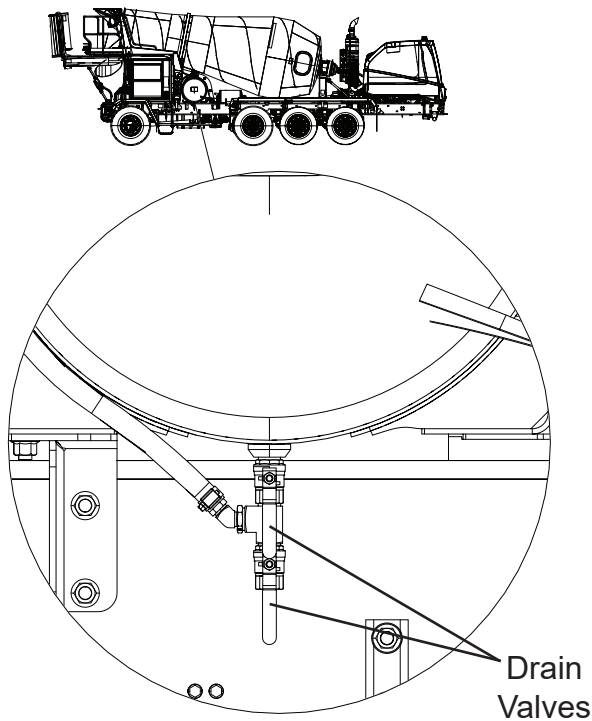

Figure 1
3. Open ball valves on the left-hand bottom of the water tank to drain the water tank, see Figure 1.